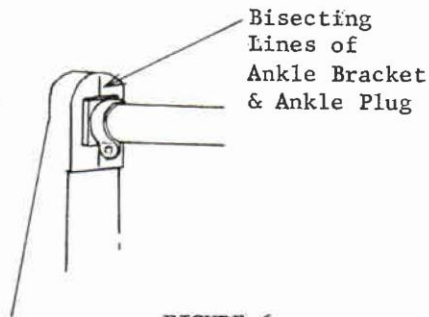

FIGURE 6
3. Attach the adjustable shank and socket to the ankle bracket with bisecting scribe line of the ankle plug coinciding with the bisecting scribe line on the ankle bracket. See Figure 6.